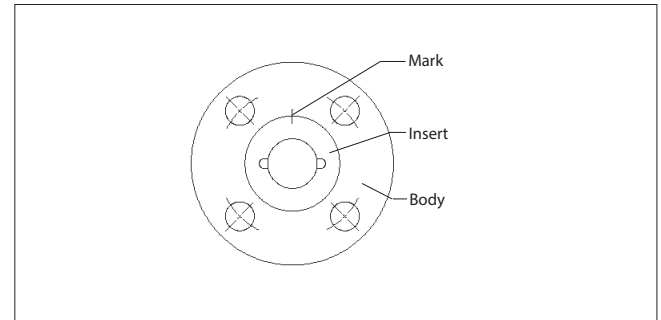

Figure 8. Marking the Insert Position
- E. Press the seals (7) and (24), or (8), up into the lower stem bore.
- F. From the outside, insert the upper stem seal (8).
- G. Press the stem (4) up into the stem bore until resistance is felt from the lower stem seal. Go on to Step 2.
- A. From inside the body cavity, first insert the secondary stem seal (7) and then the lower stem seal (24) (for fire-tested valves), or insert only the lower stem seal (8) (for non-fire-tested valves), up into the lower stem bore.
- B. From the outside insert the upper stem seal (8) into the upper stem bore.
- C. Insert the stem (4) into the body cavity and press it gently up into the stem bore until resistance is felt from the lower stem seal. Be careful not to scratch the seals. Go to Step 2.
2. Holding the stem in place from inside the body, drop the compression ring (21) and the stem nut lock (15) into place. Screw on the stem nut (16) and torque to the value shown in (Table 1).
4. If you have a torque wrench, skip this step and proceed to Step 5. Screw the insert (2) into the body until it is fully seated. Use a pencil or felt tip marker to mark the position as shown in (Figure 8). Counting the number of turns, remove the insert.